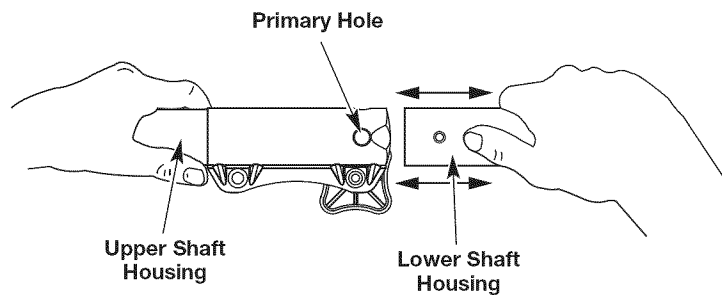

Fig. 6
2. While firmly holding the trimmer attachment or other attachment, push it straight into the Convertible™ coupler until the release button snaps firmly into the primary hole (Fig. 6).
3. While firmly holding the upper shaft housing, pull the trimmer attachment or other attachment straight out of the Convertible™ coupler (Fig. 6).